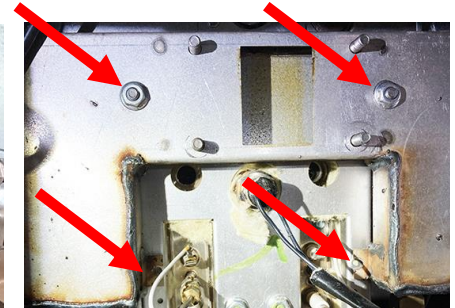

Figure 20
23. Remove the plenum by removing the two (2) nuts and two (2) screws on lower tabs securing the plenum (see Figure 20).